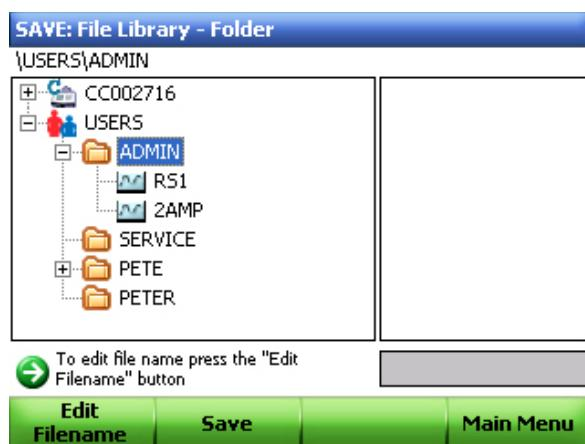

Figure 40. Saving a protocol.
- Enter a protocol name if you have already not done so or edit the name previously created in the Protocol window. Use arrow keys to select a destination folder (Figure 40).